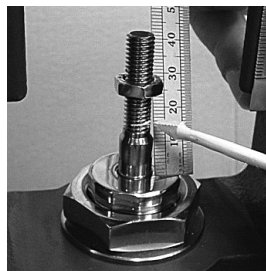

Fig. 19
- Measuring from the top of the stuffing box, mark the new stroke required on the valve stem - 15 mm or 20 mm (Figure 19).